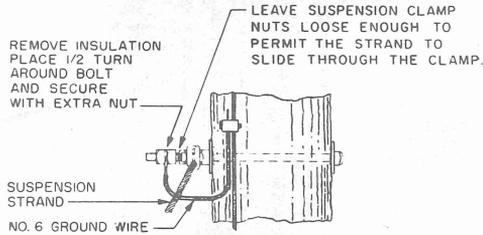

Fig. 21—Temporary Ground Attachment While Placing Strand
4.04 During the placing operation, ground attachments along the line may be made as shown in Fig. 21 instead of using the B grounding roller.